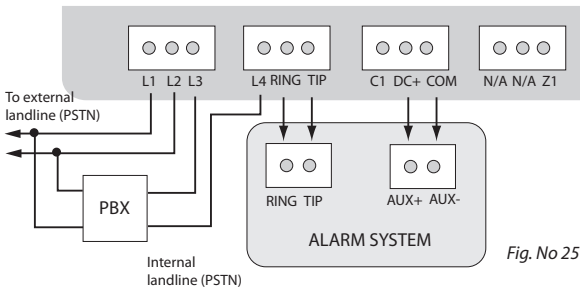

Fig. No 25
1. Connect the circuit as indicated in Fig. No. 25 – connect telephone contacts of the alarm system RING/TIP to RING/TIP contacts of communicator.